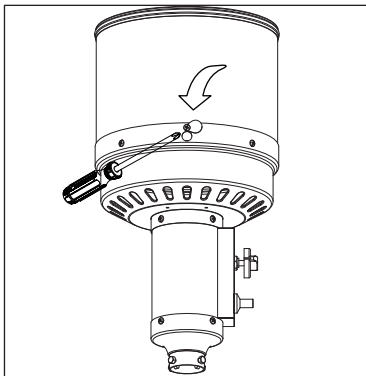

Figure 1
2. Press and turn the control knob to "Pilot" position (anti-clockwise 90°). (Figure 1)